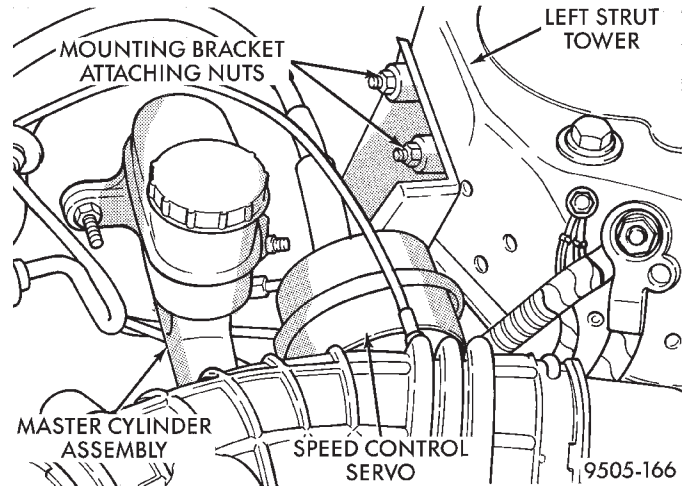

Fig. 55 Speed Control Servo Attachment
(3) If equipped, remove the vehicle's wiring harness connector from the speed control servo. Remove the 2 speed control servo mounting bracket to strut tower attaching nuts (Fig. 55). Without removing speed control cable from servo, move speed control servo out of the way.
(11) If equipped, install speed control servo on the mounting studs in the left strut tower (Fig. 55). Install the 2 speed control servo bracket mounting nuts (Fig. 55). Tighten the 2 mounting nuts to a torque of 6 N·m (55 in. lbs.).
(12) Check brake light switch for correct adjustment. If required, adjust stop lamp switch as necessary. See required procedure in the Service Adjustments Section in this group of the service manual.
(13) Road test vehicle to ensure proper operation of the vehicles brake system.